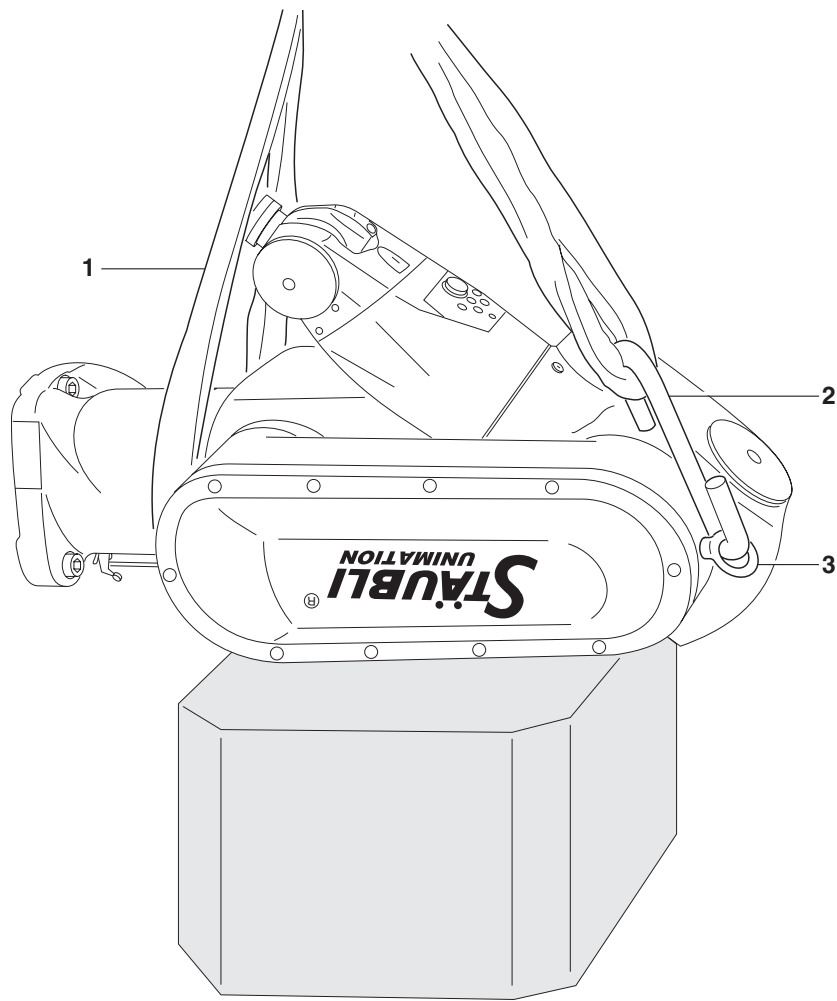

Figure 4.6
4.4.3. ARM INSTALLATION ON THE WALL (figure 4.6)
- Place the fabric sling (1) around joint 1 as shown on figure 4.6.